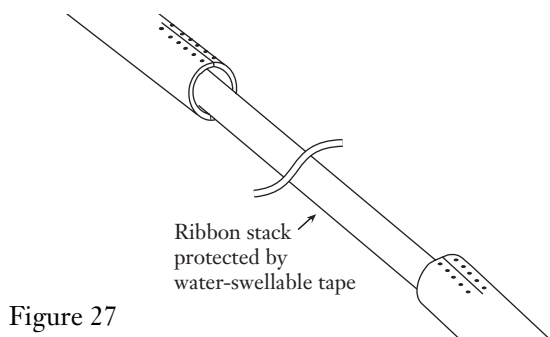

Figure 27
6.15 Follow the UAT instructions to access the ribbons. After using a UAT III, the final result will look like Figure 27.